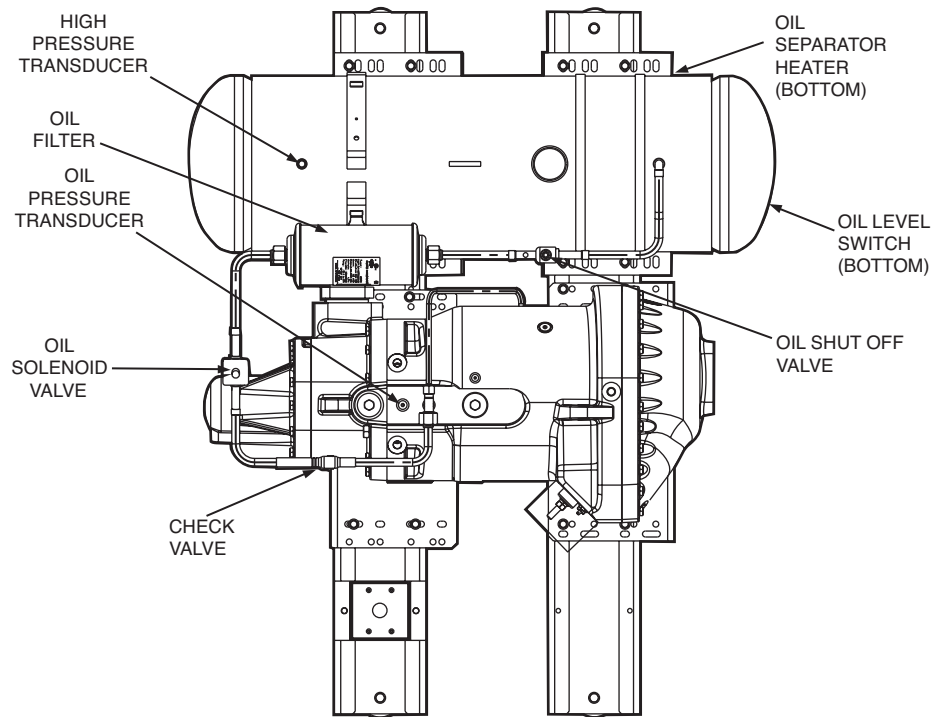

**Fig. 52 — Typical Oil System (All Units)**
**COMPRESSOR OIL SYSTEM** — Each compressor/circuit has its own oil system which includes an oil filter, oil solenoid, check valve, oil level switch, oil separator heater, oil pressure transducer, and an oil shut-off valve. A typical oil system is shown in Fig. 52. See Table 36 for required oil quantity per circuit, initially included from the factory.